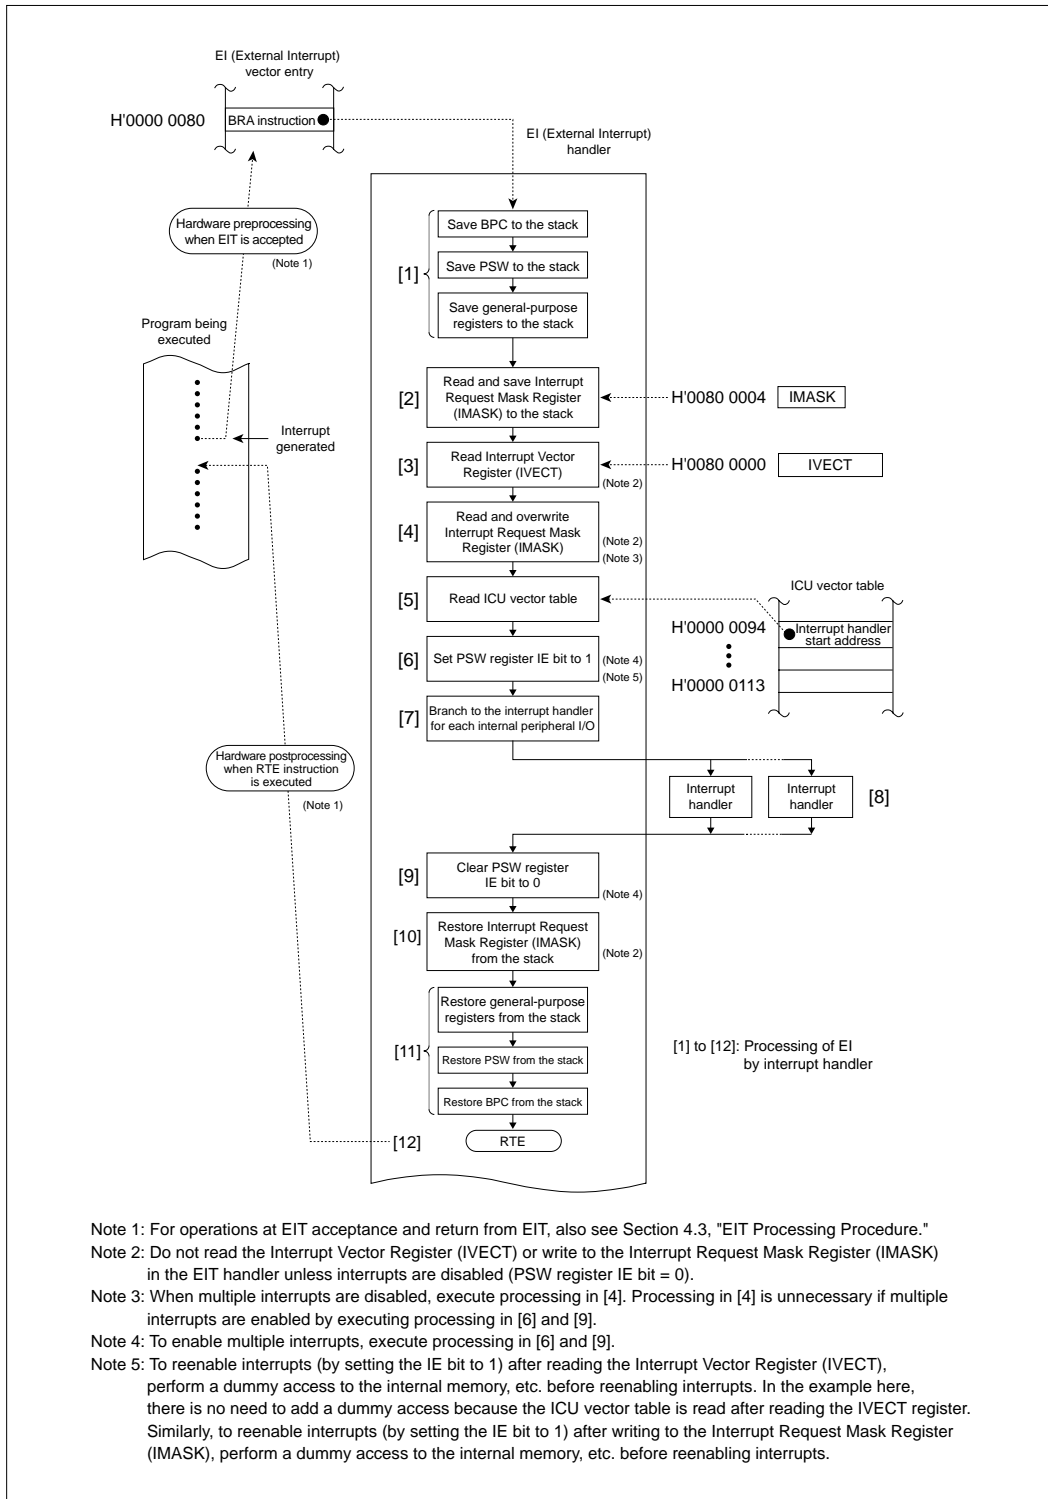

Figure 5.5.2 Typical Operation for Interrupts from Internal Peripheral I/O
(2) Processing in the External Interrupt (EI) handler
A typical operation of the External Interrupt (EI) handler (for interrupts from internal peripheral I/O) is shown in Figure 5.5.2.
Note: • Before enabling multiple interrupts, read the Interrupt Vector Register (IVECT) and then the ICU vector table, as shown in Figure 5.5.2, "Typical Handler Operation for Interrupts from Internal Peripheral I/O."